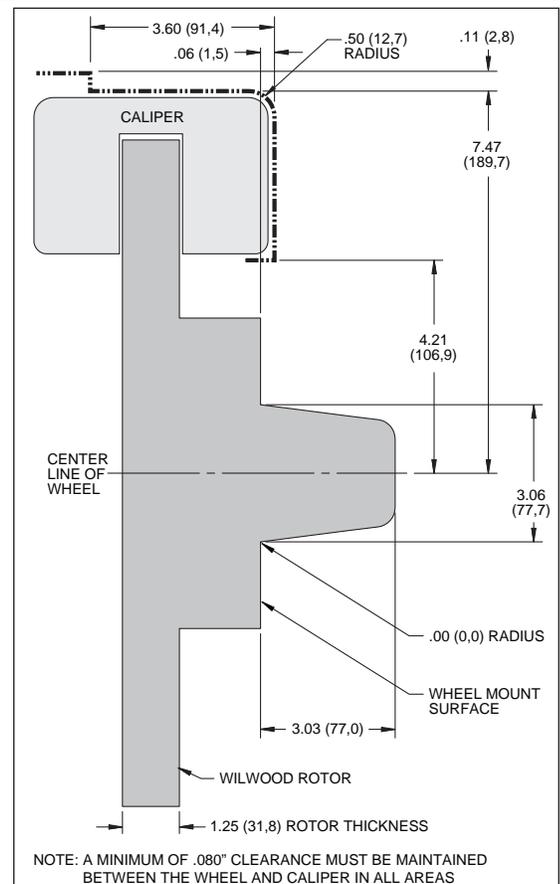

Figure 2. Wheel Clearance Diagram
- Review the wheel clearance diagram (Figure 2, page 3) to verify that there is adequate clearance with the wheels you will be using with the installation.
- Make sure this is the correct kit to fit the exact make and model year of your axle. This kit is designed specifically to fit Classic Performance Product Drop Spindle, Wilwood P/N's 830-10764 (CP30106-2), 1963-1970, 830-10765 (CP30106-3) 1971-1972, and 830-0766 (CP30106-4) 1973-1987. Spindles are available to purchase from Wilwood. Please contact our customer service department at (805) 388-1188 for details.
- Verify your wheel clearance using Figure 2.